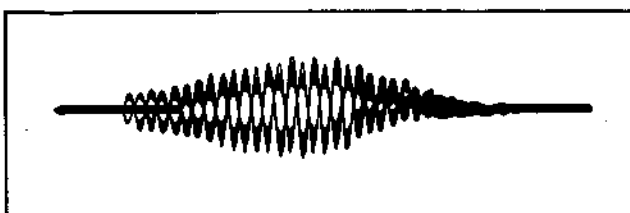

Fig. 4-4-6. Injection oscillator (1)
- (1) Supply the VTR with the colour bar signal and set up the E-E mode.
- (2) Connect the oscilloscope to collector of Q4.
- (3) Make sure that injection level is 5-6V and does not saturate as shown in Fig. 4-4-6.